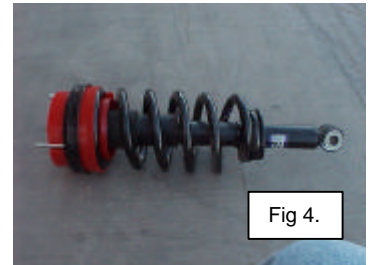

Fig 4.
14. Slide the Top Spacer onto the strut assembly over the new 10mm bolts (Fig. 4).
15. Install the strut assembly into the strut tower and start the upper three 10mm nuts with washer (Fig. 4). (Make sure that the bottom of the strut is aligned as well)